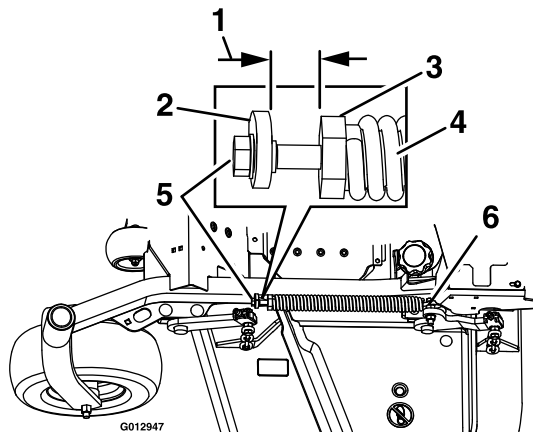

Figure 3
3. On the left side of the unit, measure the distance between the nut on the end of the spring and the bracket (Figure 3). Note this measurement.
11. Install the front bolt of the side spring, use the measurement recorded in step 3 to set the gap between the nut on the end of the spring and the bracket (see Figure 3), and tighten or loosen the spring bolt until the appropriate gap is reached.